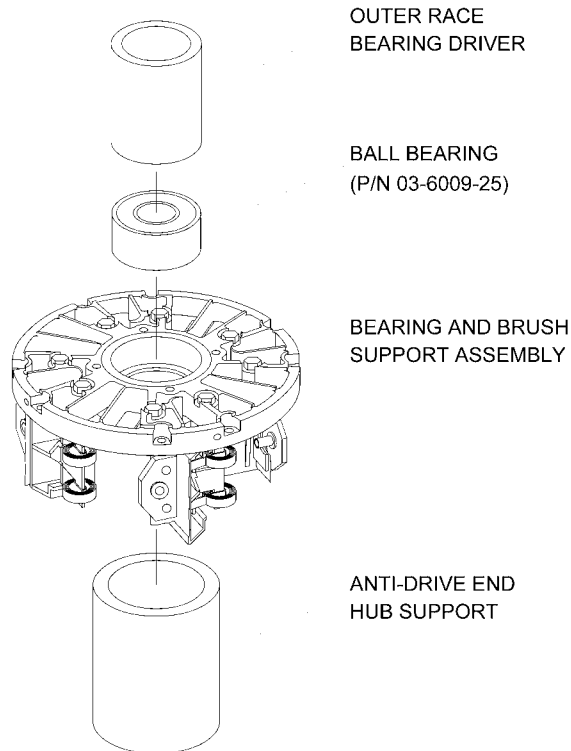

Figure 2 - Ball Bearing Installation
- (1) Press ball bearing (P/N 03-6009-25) into bearing and brush support assembly. See Figure 2.